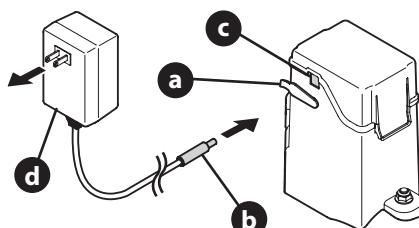

Figure 29
- Open the charging port cover (a) and plug the charger lead (b) into the charging port (c) (Figure 29).